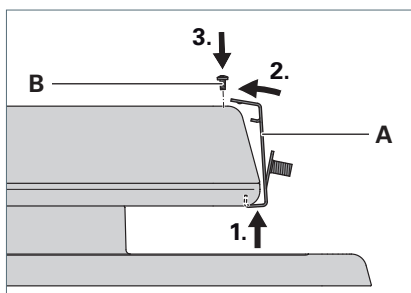

Fig. 8: Mounting the retaining plate.
- ▶ Hang a retaining plate **A** from below into a side of the luminaire and press the retaining plate against the luminaire until it engages, see Fig. 8.